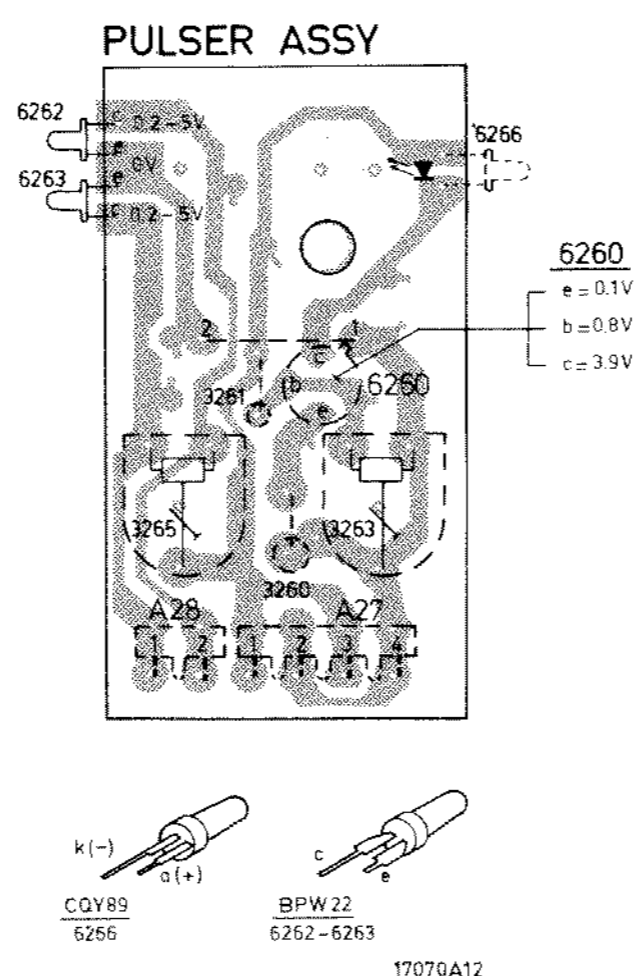

Fig. 12
**Afregelen pulser assy (Fig. 12)**